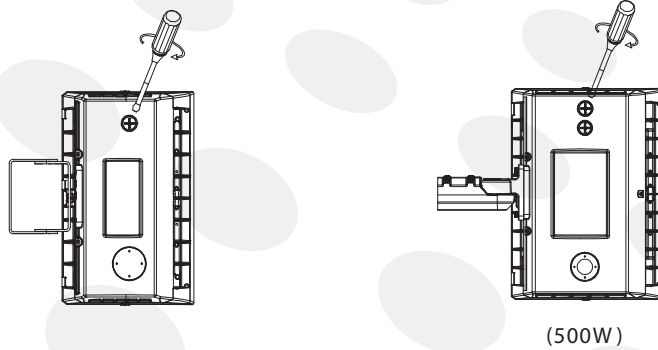

Figure 13
Step 1: Open the metal plug counterclockwise with a screwdriver, then slide the switch up and down to adjust the power controller or CCT controller in your demand. (Figure 13)